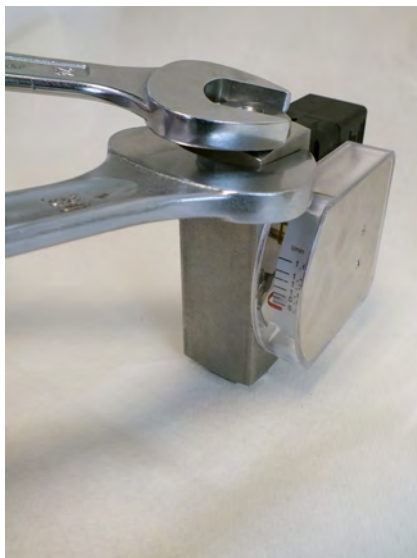

Fig. 60: Tighten process connection (outlet)
- 11.** ➤ Using a proper sized fixed spanner tighten the process connection (outlet). Hold the device body in place using a suitable fixed spanner (Fig. 60), and observe the proper torque( Chapter 11.1 "Tightening torque" on page 79).